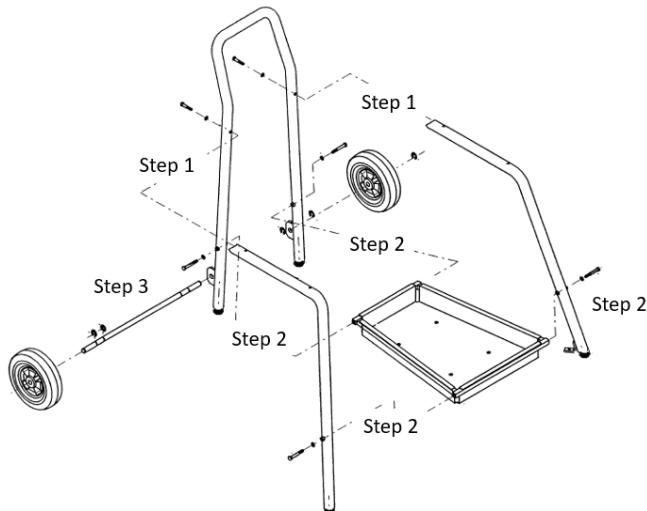

Figure 4 – Assembling Stand
2. Attach the tool tray assembly to the rear and front legs using the four (4) $\frac{3}{8}$ " – 16 x 2¾" hex screws and lock washers. Do not tighten screws.
3. Insert axle into tabs extending from the rear support/handle assembly and secure using four (4) retaining rings, See *Figure 4*.